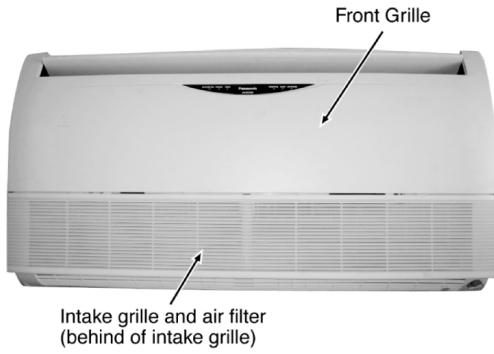

Fig. 1
1. Remove the Intake Grille and Air Filter from the Front Grille (Fig. 1).